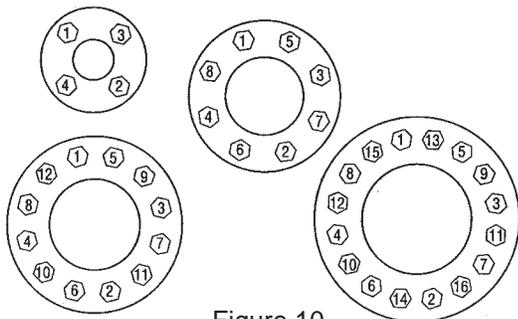

Figure 10
- Using the sequence shown in Figure 10 tighten the flange bolts evenly to assure uniform gasket compression.